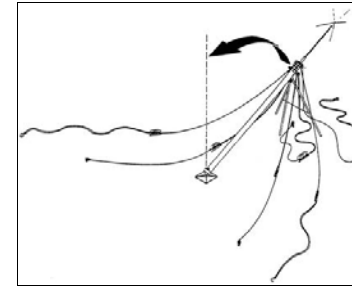

Figure 7
16. Raise the mast to a vertical position and verify that the gearbox is securely seated on the base plate. See Fig. 7.